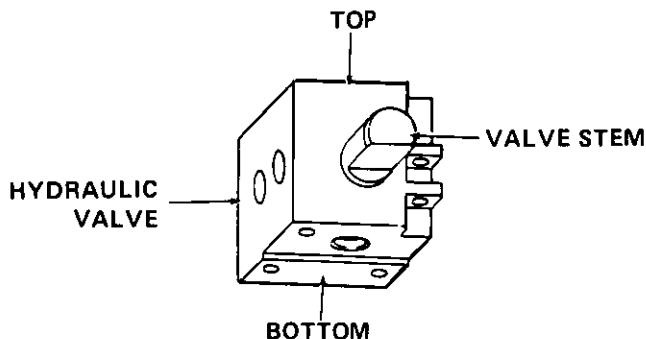

Figure 9
- a. Turn the valve stem on the hydraulic valve assembly (A) so the curved portion of the valve stem is at the top of the valve. Refer to Figure 9.
- Carefully wipe any debris from the hydraulic valve (A) and remove the plastic plug from the bottom of the valve. (Bottom of valve is identified in Figure 9.)